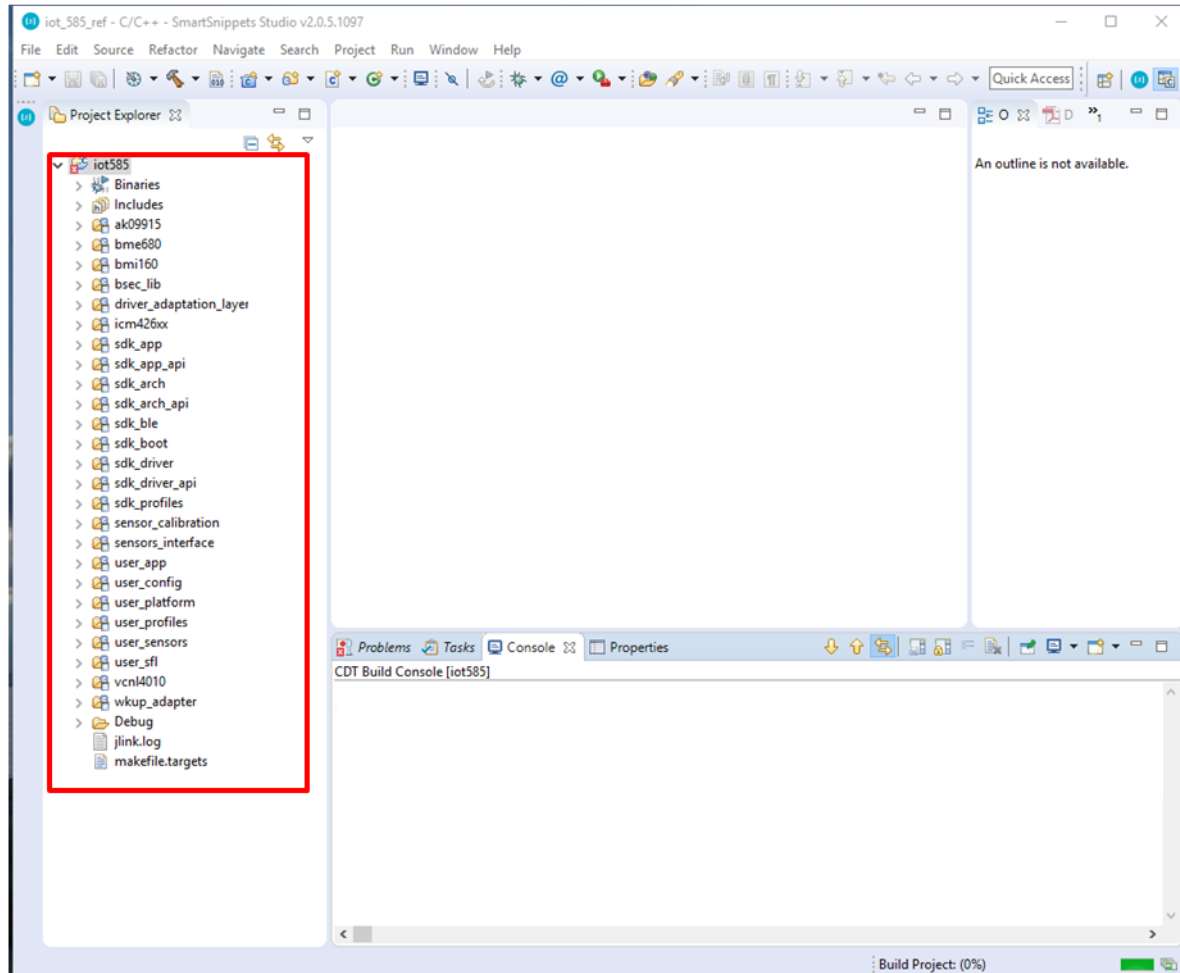

Figure 15: iot585 Project Imported
10. After Eclipse imports the project, the **iot585** project will appear in the Project Explorer window (Figure 15).